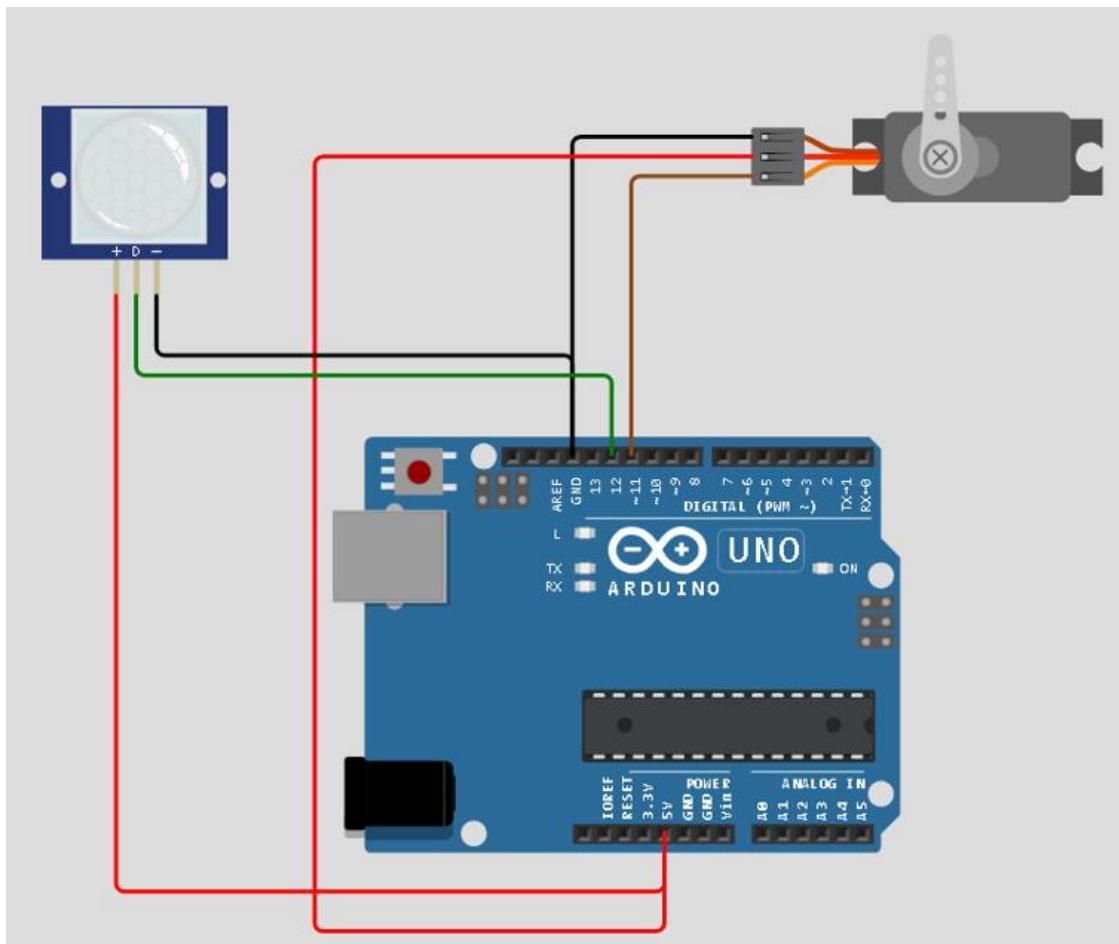

Figure 8.2
- b. The circuit in figure 8.2 automatically controls the door (Servo motor) with PIR Motion Sensor. Design the circuit using Wokwi using the below items.